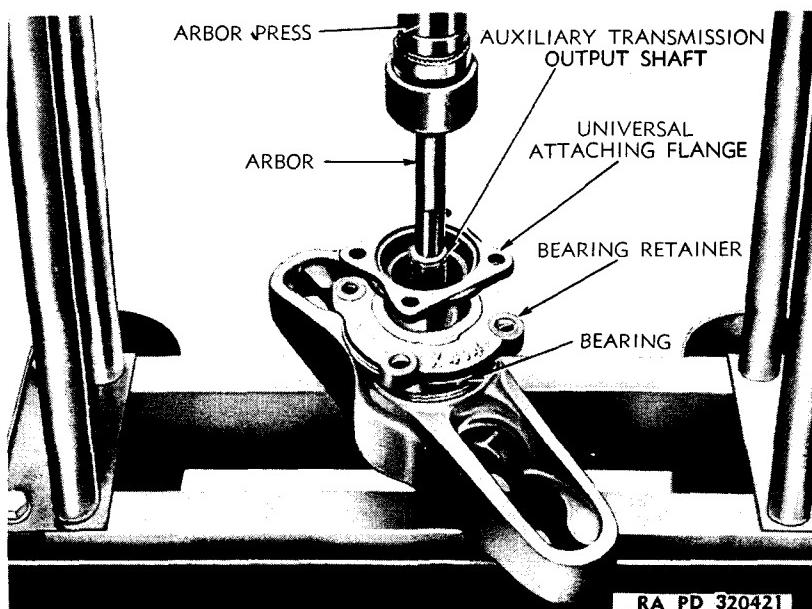

Figure 12 — Pressing Shaft From Bearing and Cap
b. **Disassemble Rear Cover Assembly.** Remove speedometer drive nipple by turning counterclockwise (fig. 11). Pull out speedometer drive shaft. Remove four cap screws holding bearing cap to rear of cover. Tap on splined end of shaft to remove shaft, cap, and bearing assembly. Remove cap gasket. Clamp splines of shaft in soft-jawed vise, and remove special nut by turning counterclockwise. Remove flat washer and oil seal from recess in universal joint flange. Press shaft from cap and flange (fig. 12). Turn cap over and press out oil seal (fig. 13). Press shaft from speedometer gear and bearing.